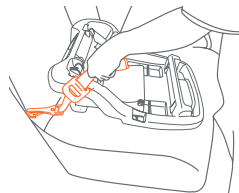

Fig. 47-2
5. Locate the **LATCH** anchors in the vehicle seat (Fig. 46-2). Once located, snap the Safety Seat **LATCH** connectors onto the steel rod. Listen for the click and check that both connectors are firmly attached to the anchor rods by pulling outward on the connectors (Fig. 47-2).
with your knee or hand on the Base while pulling upward on each webbing end. The webbing will automatically lock in place. **Check that there is no slack in the webbing on both sides of the base and that the base is tightly installed** (Fig. 47-2 and 47-3).